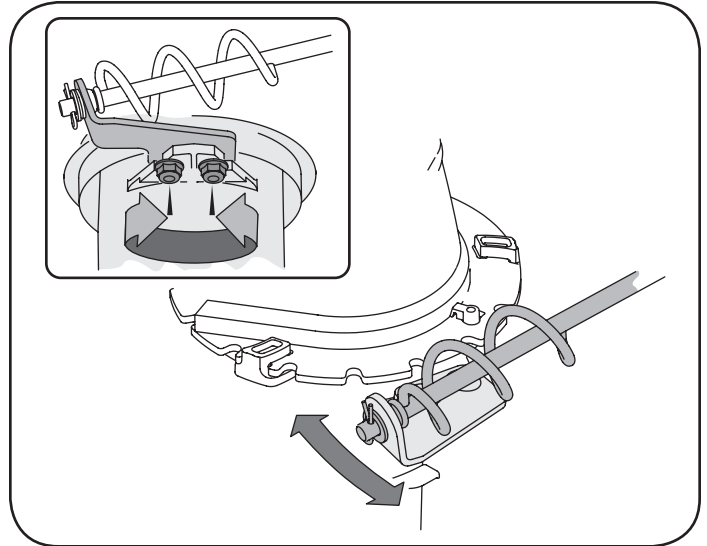

Figure 19
1. Loosen the two nuts which secure the chute bracket and reposition it slightly. See Figure 19.